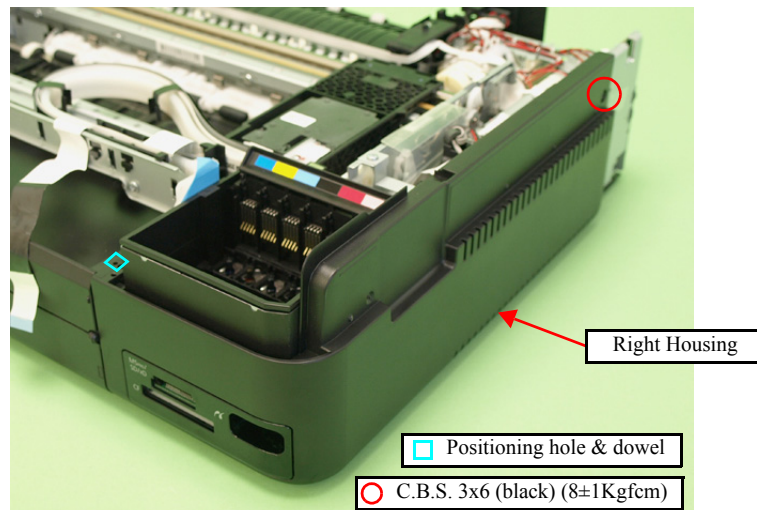

Figure 4-174. Removing the Right Housing/Card Cover (1)
2. Release the dowel (x1) on the front side (see Fig. 4-174) and hooks (x3) on the bottom of the Right Housing, and remove the Right Housing.
- Align and insert the dowel of the Base Frame to the positioning hole of the Right Housing. (See Fig. 4-174.)